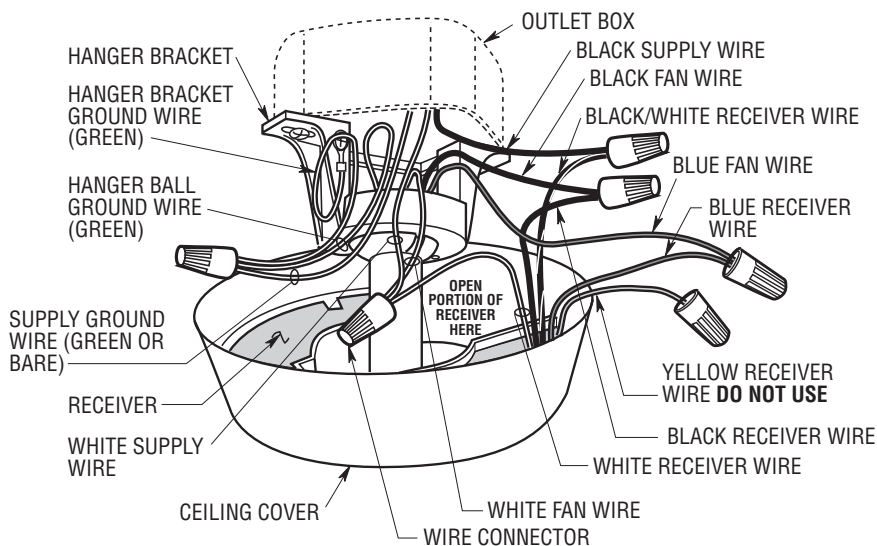

Figure 12
1. Pull the wire leads, coming from the end of the downrod, and the supply wires through the open side of the hanger bracket. (Figure 12).
2. Position the SW105 Receiver (supplied) in the ceiling cover so that the flat side of the receiver faces up and the open portion of the receiver is to the right, as shown in Figure 12.
3. Using wire connectors (supplied), make wiring connections as follows (Figure 12 and 13):